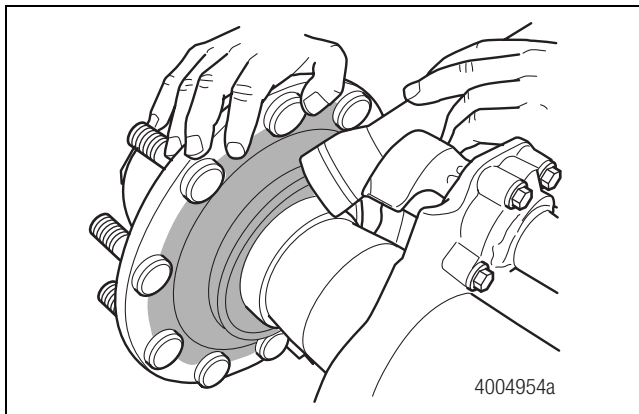

Figure 2.7
- Check the hub inner grease seal for leakage. A leaking seal will stain the backside of the unitized hub with lubricant, similar to a conventional hub. Figure 2.7.